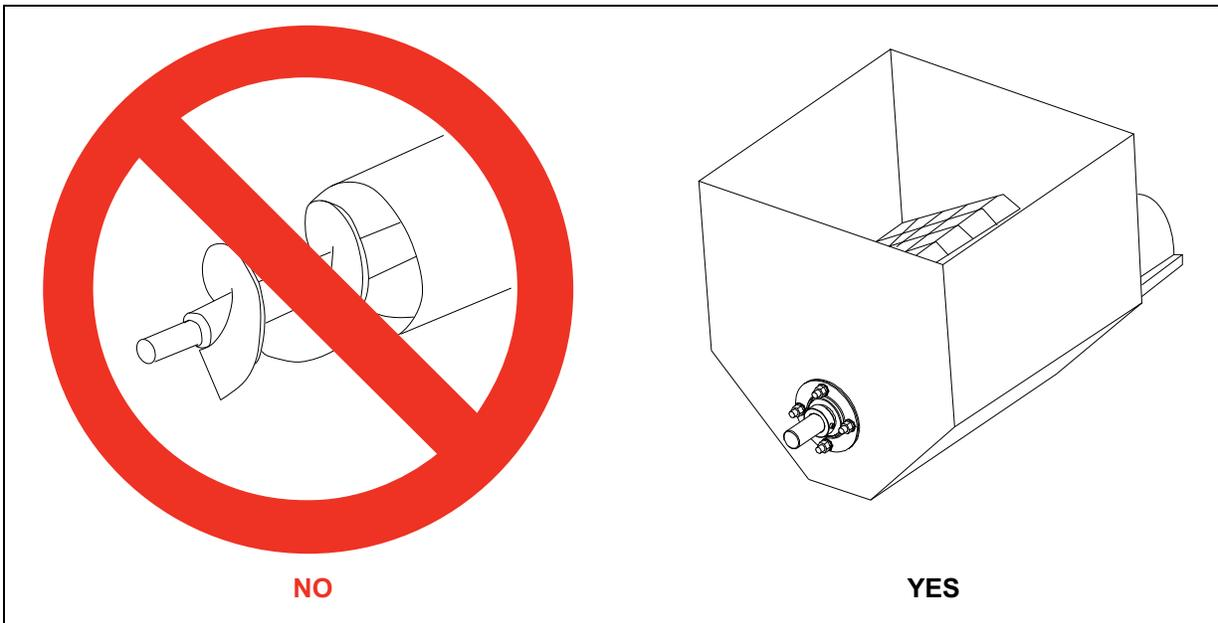

Figure 1C
1. End and intermediate intake guard. (See Figure 1C.)